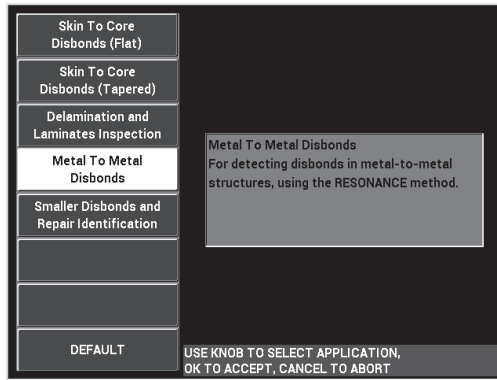

Figure 6-38 The Metal To Metal Disbonds application
3. Select the **Metal To Metal Disbonds** application, and then press ✓ to accept (see Figure 6-38 on page 157).